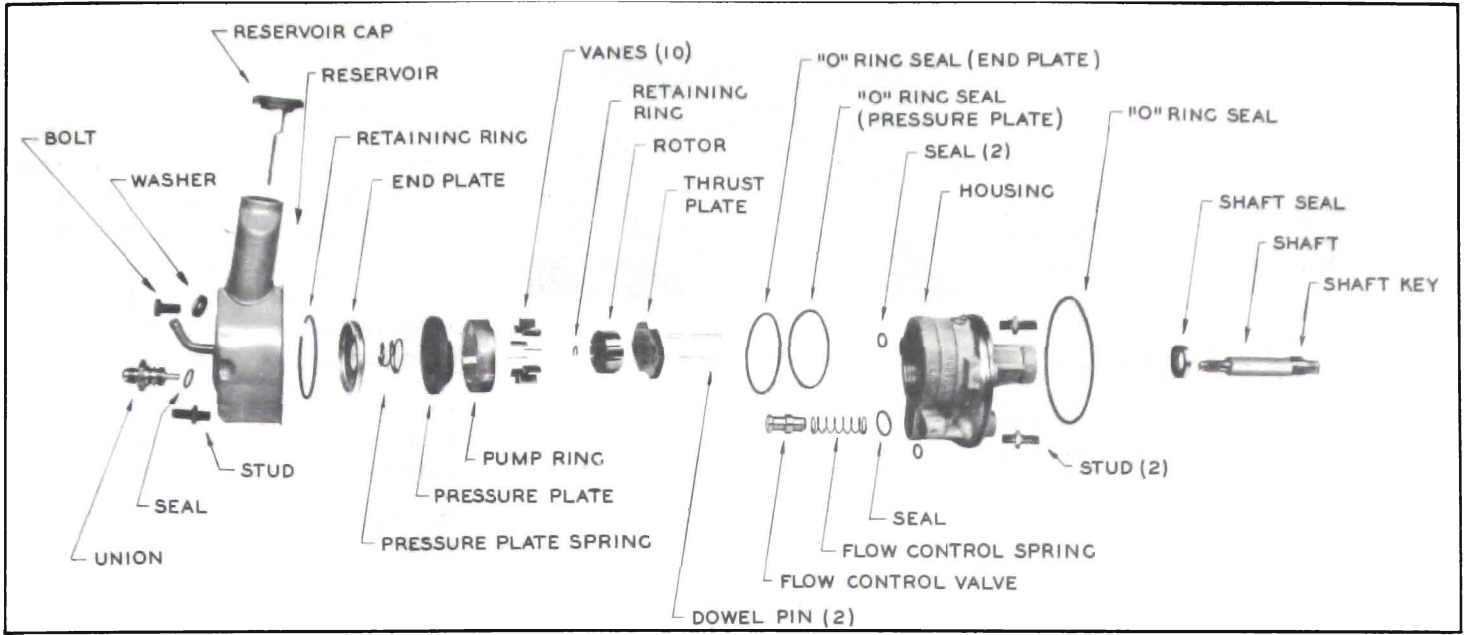

Figure 8-73—Exploded View of Oil Pump
13. Install a new reservoir O-ring seal on housing. Place a new reservoir to housing seal and new reservoir to housing bolt and stud seals in counter bores in housing. See Figure 8-73.